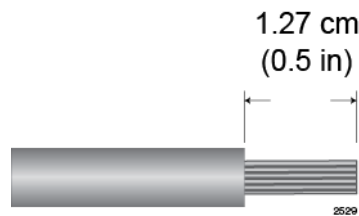

Figure 138. Stripping the Power Wires
1. Prepare adequate lengths of two stranded 8 AWG power wires by stripping them as shown in Figure 138.